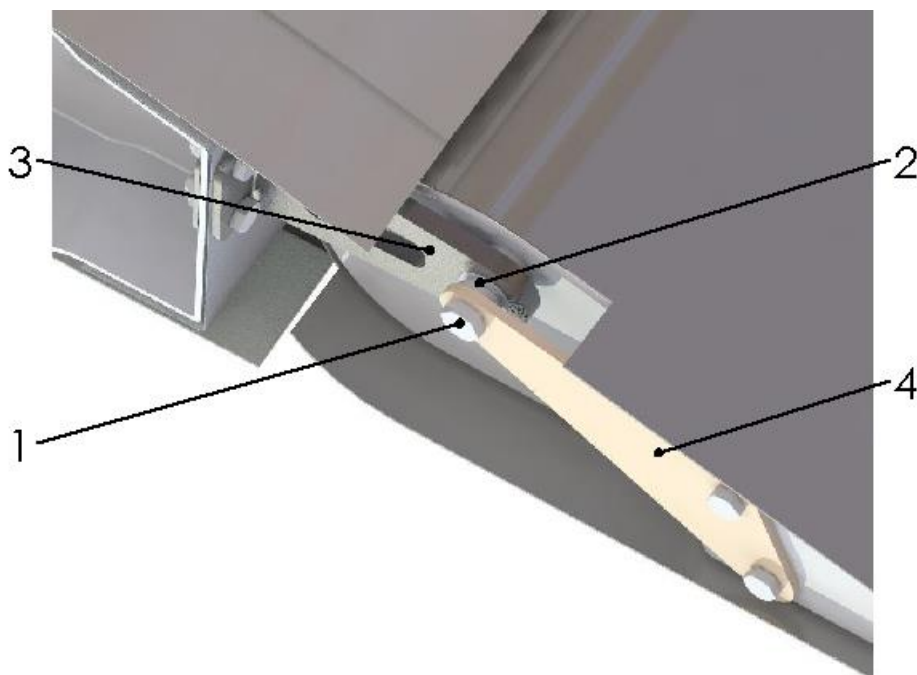

Fig. 57-52-3
2	Match the hole in the outer aileron bracket (4) with hole in the bearing of the wing bracket (3) and the aileron. Place 4 washers (2) between the wing bracket and the aileron bracket and connect them by the bolt (1) Fig. 57-52-3. Secure with safety wire.